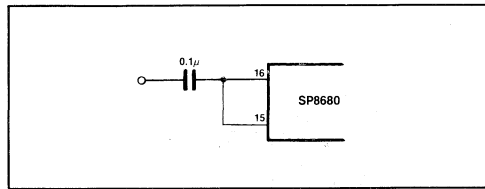
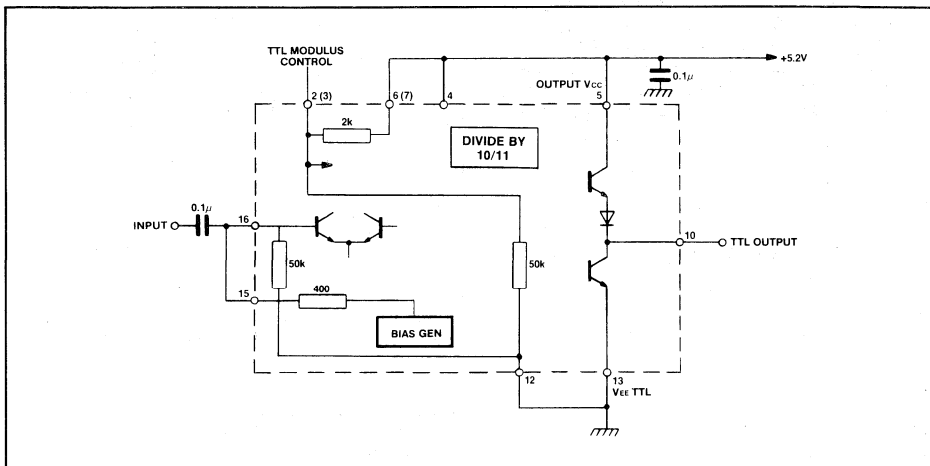
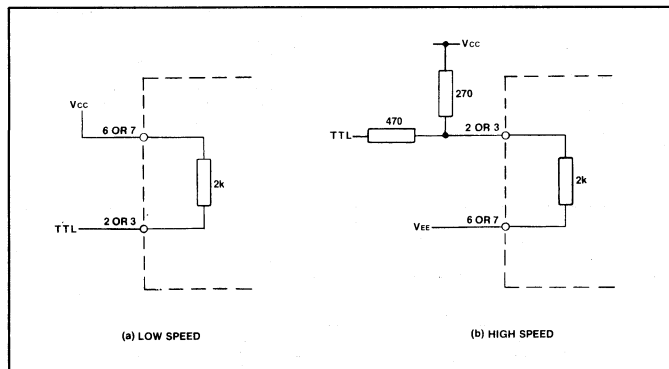

Fig. 7 AC coupled input
Fig. 8 Typical application showing interfacing
Fig. 9 TTL interface to PE1 and PE2
1. The clock input, which is ECL 10K compatible throughout the temperature range, can also be directly coupled to TTL as shown in Fig.9. The clock can also be capacitively coupled to the signal source (see Fig.7). Connecting the internally-generated bias voltage to the clock input, i.e. pin 15 to pin 16 centres the clock input about the switching threshold (see Fig.8).
4. Both control inputs (PE1 and PE2) are ECL 10K compatible throughout the temperature range. Each control input is provided with a pull up resistor, the remote ends of which are connected to pins 6 and 7. This allows the pull up resistors to be unused if so desired, or to be used to interface from TTL (see Fig.9). If interfacing to ECL is required then pins 6 and 7 should be left open circuit: alternatively they can be connected to VEE to act as pull-down resistors. When high, the master set input sets the counter to the eleventh state, is asynchronous, and overrides the clock input.